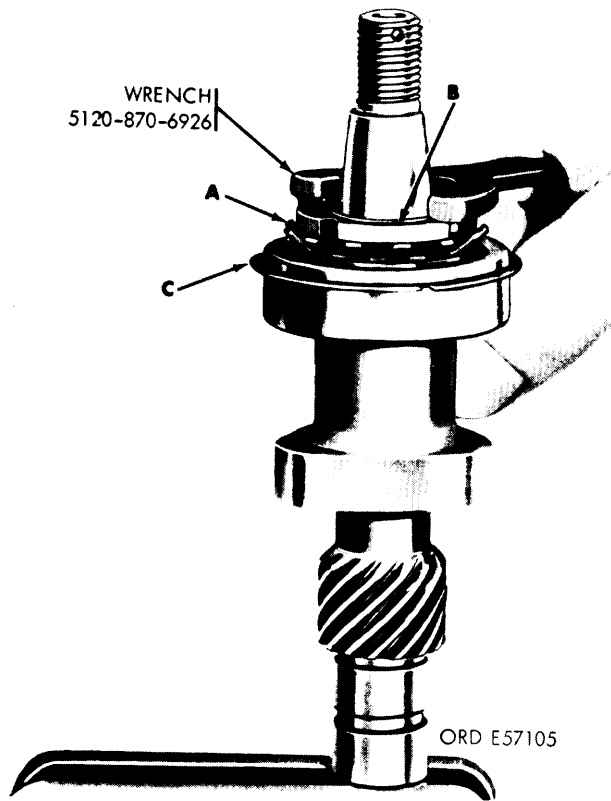

Figure 3-105. Removing or installing bearing retaining locknut using wrench.
(1) Refer to figure 3-105. Place camshaft and associated parts in a vise as shown. Straighten tabs on bearing retaining lockwasher (A) and remove bearing retaining locknut (B), using wrench-5120-870-6926. Remove lockwasher.
(2) Refer to figure 3-105 and install bearing retaining locknut and related parts on camshaft. Torque tighten nut to 25-40 foot-pounds. Secure nut by bending tab of lockwasher into notch of locknut.